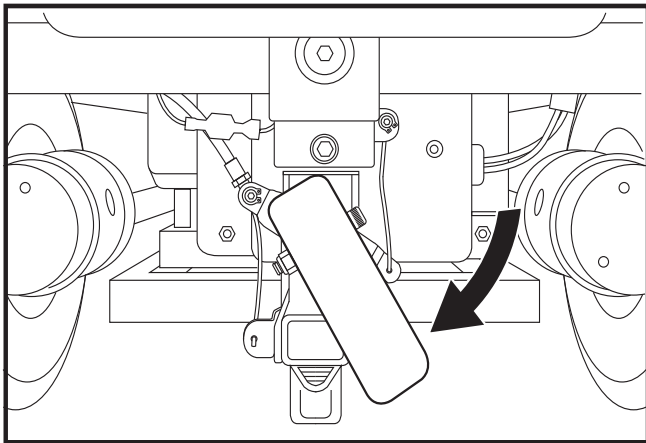

Figure 8. Freewheel Mode (Drive Disengaged)
For your convenience, your power chair is equipped with a manual freewheel lever. See figures 8 and 9. This lever allows you to disengage the drive motors and maneuver the chair manually.
1. Pull the manual freewheel lever out and rotate clockwise for freewheel mode (drive disengaged). See figure 8.